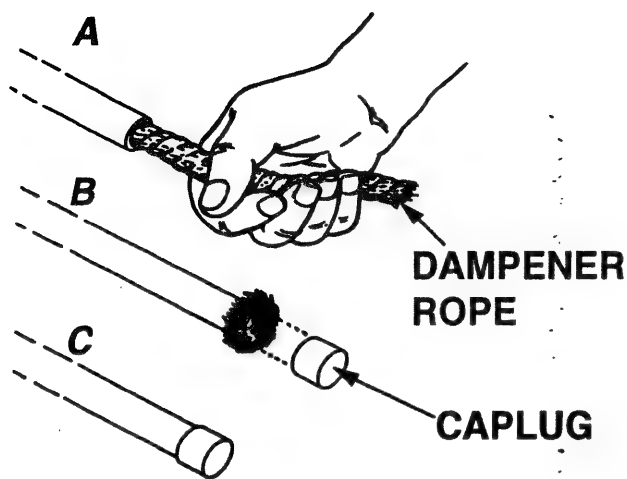

Figure 7
The two reflectors and the six driven elements require dampener rope in the last tubing section (the 7/16" tubing at the end of the element). This rope prevents low-frequency oscillations that may occur at low wind speeds. Select the dampener rope (Item 83) and cut it into sixteen (16) equal lengths of 45" (1.14m) each. Slip one length of rope into the outside end (the 7/16" tube) of an element half. With about 1/2" (13mm) of rope extending from the element half, fray the rope into individual fibers, and then fold the fibers back along the outside of the tube. See Figure 7. Slip a 7/16" capplug over the element end and rope fibers and push the capplug so that it is secure. Repeat this procedure for each of the sixteen element halves for the reflectors and driven elements.